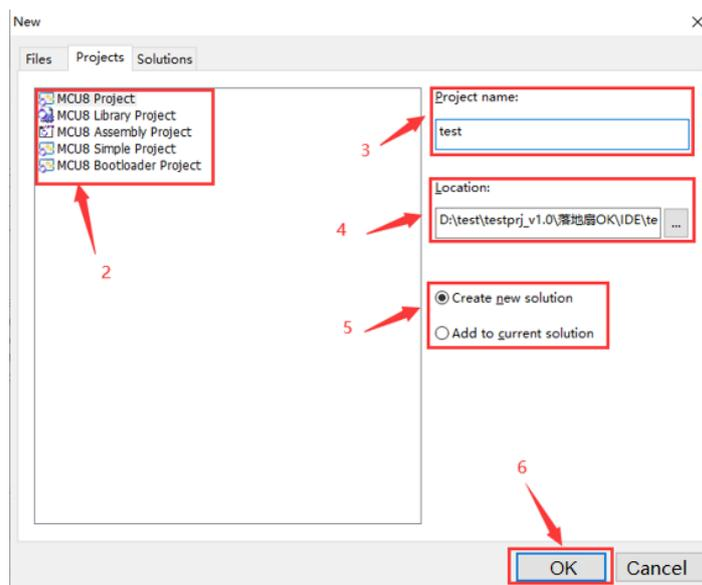

Figure 2-5
Step 2: Select the project type, including MCU8 Project, MCU8 Library Project, MCU8 Assembly Project, MCU8 Simple Project, and MCU8 Bootloader Project, as shown in Figure 2-5.
Step 3: Enter the project name (for example, "test" or "test.c"), as shown in Figure 2-5. If you do not enter a suffix, the system defaults the new project to be a C source project with the suffix ".c";
Step 4: Select storage path of the new project, as shown in Figure 2-5;
Step 5: Select "Create a new solution" or "Add to the current solution", as shown in Figure 2-5. The former runs the project in a newly created solution, and the latter adds the project to an existing solution;
Step 6: Click "OK" to select the chip type, as shown in Figure 2-5